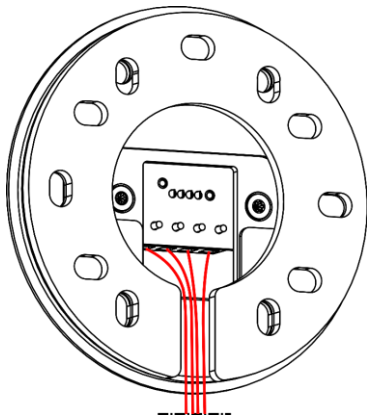
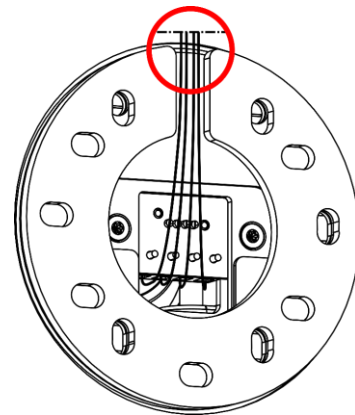

Fig. 14
Fig. 15
- 01) Hold the **mounting plate (07)**, with the **rubber gasket (08)**, against the wall, in such a way that all cables fit through the opening in the **rubber gasket (08)** (Fig. 14).
Make sure that the opening in the gasket is located at the bottom (Fig. 14). If, for any reason, such installation is not possible, seal the opening with a waterproof sealant to protect the device from the ingress of water (Fig. 15).